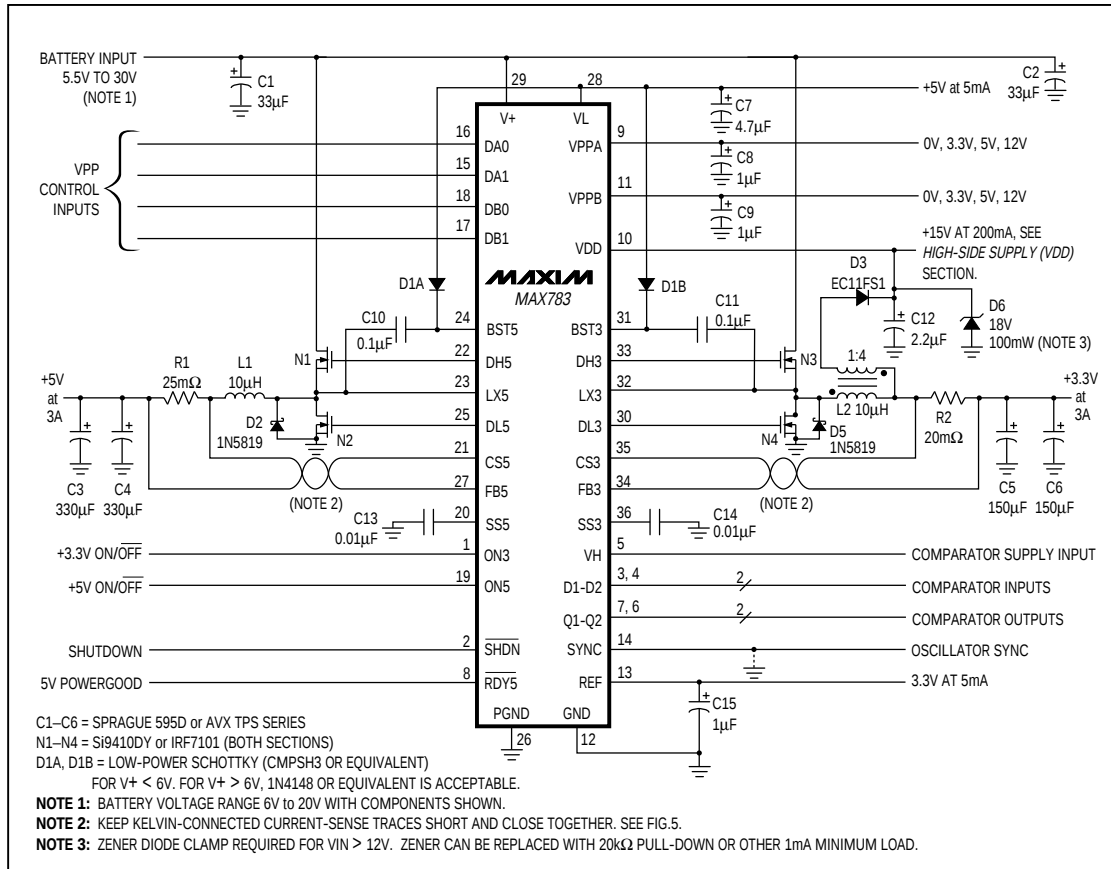
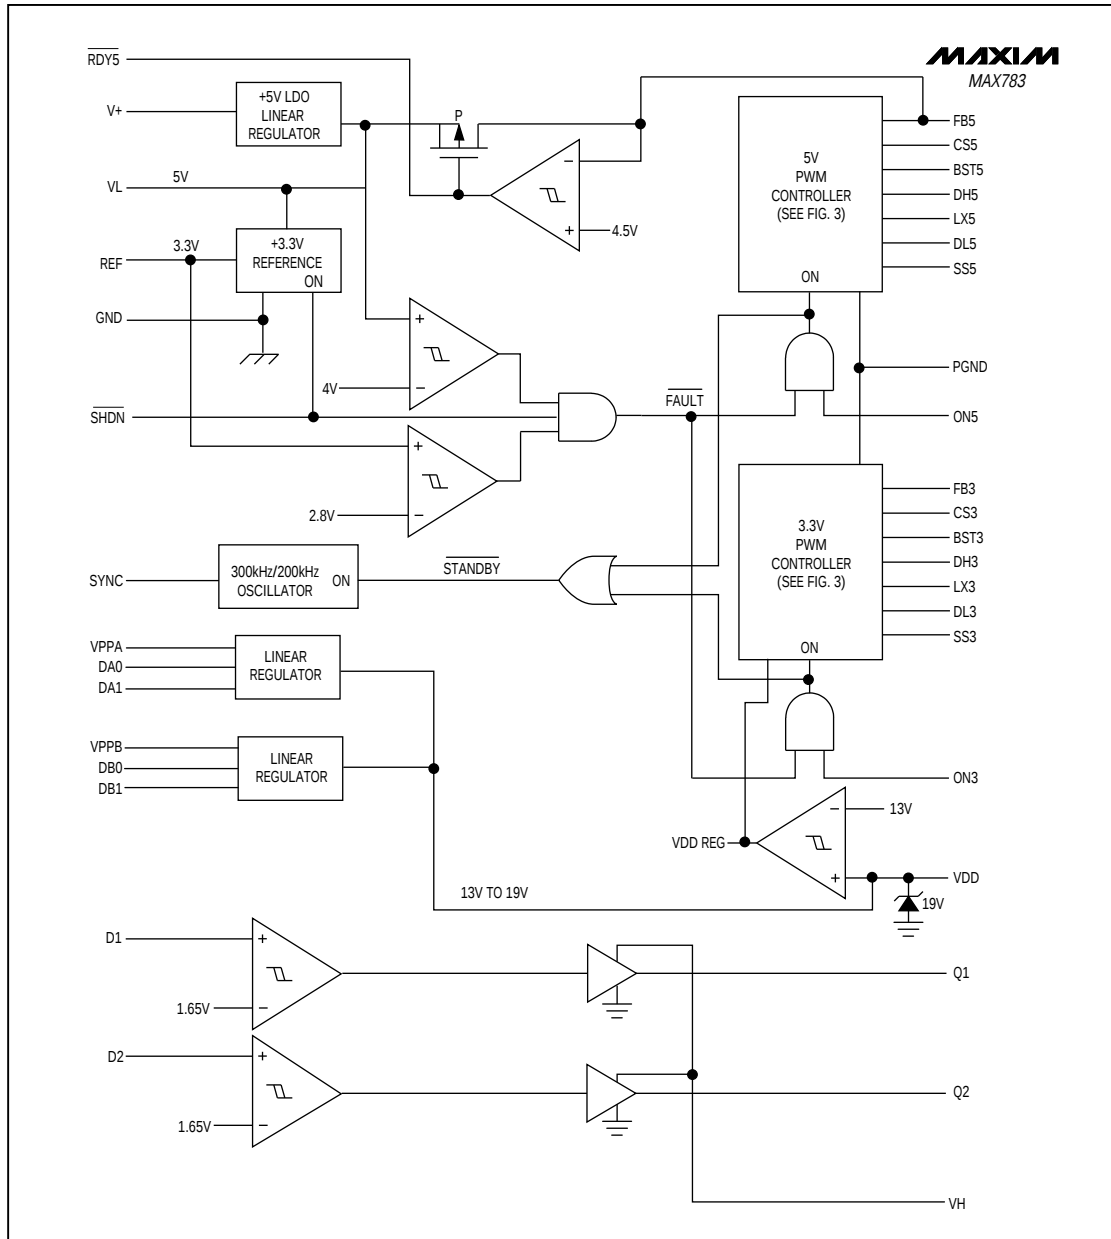

Figure 1. Standard Application Circuit
Figure 2. Block Diagram
(Circuit of Figure 1, Transpower TTI5902 transformer, $T_A = +25^\circ C$, unless otherwise noted.)
(Circuit of Figure 1, Transpower TTI5902 transformer, $T_A = +25^\circ\text{C}$, unless otherwise noted.)
(Circuit of Figure 1, Transpower TT15902 transformer, $T_A = +25^\circ\text{C}$, unless otherwise noted.)
The MAX783 converts a 5.5V to 30V input to six outputs (Figure 1). It produces two high-power, PWM switch-mode supplies, one at +5V and the other at +3.3V. The two supplies operate at either 300kHz or 200kHz, allowing for small external components. Output current capability depends on external components, and can exceed 6A on each supply. Two 12V VPP outputs, an internal 5V, 25mA supply (VL) and a 3.3V, 5mA reference voltage are also generated via linear regulators (Figure 2). Fault-protection circuitry shuts off the PWM and high-side supply when the internal supplies lose regulation.
The +5V supply is generated by a current-mode PWM step-down regulator using two N-channel MOSFETs, a rectifier, plus an LC output filter (Figure 1). The gate-drive signal to the high-side MOSFET, which must exceed the battery voltage, is provided by a boost cir-
cuit that uses a 100nF capacitor connected to BST5. The +5V supply's dropout voltage, as configured in Figure 1, is typically 400mV at 2A. As V_+ approaches 5V, the +5V output falls with V_+ until the VL regulator output hits its undervoltage lockout threshold at 4V. At this point, the +5V supply turns off.
Figure 1's predesigned application circuit contains the correct component values for 3A output currents and a 6V to 20V input range. Use the design procedure that follows to optimize this basic schematic for different voltage or current requirements.